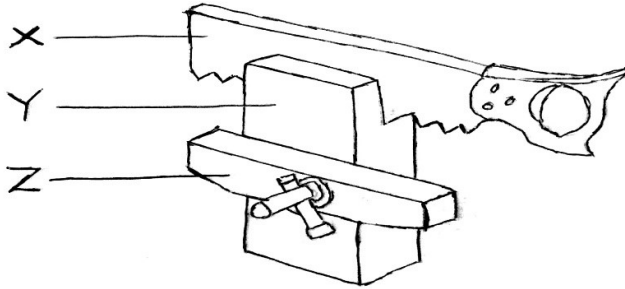

Figure 2
Figure 2 shows a set up for an operation in woodwork.
- (a) (i) Write the name of the operation being carried out in Figure 2.